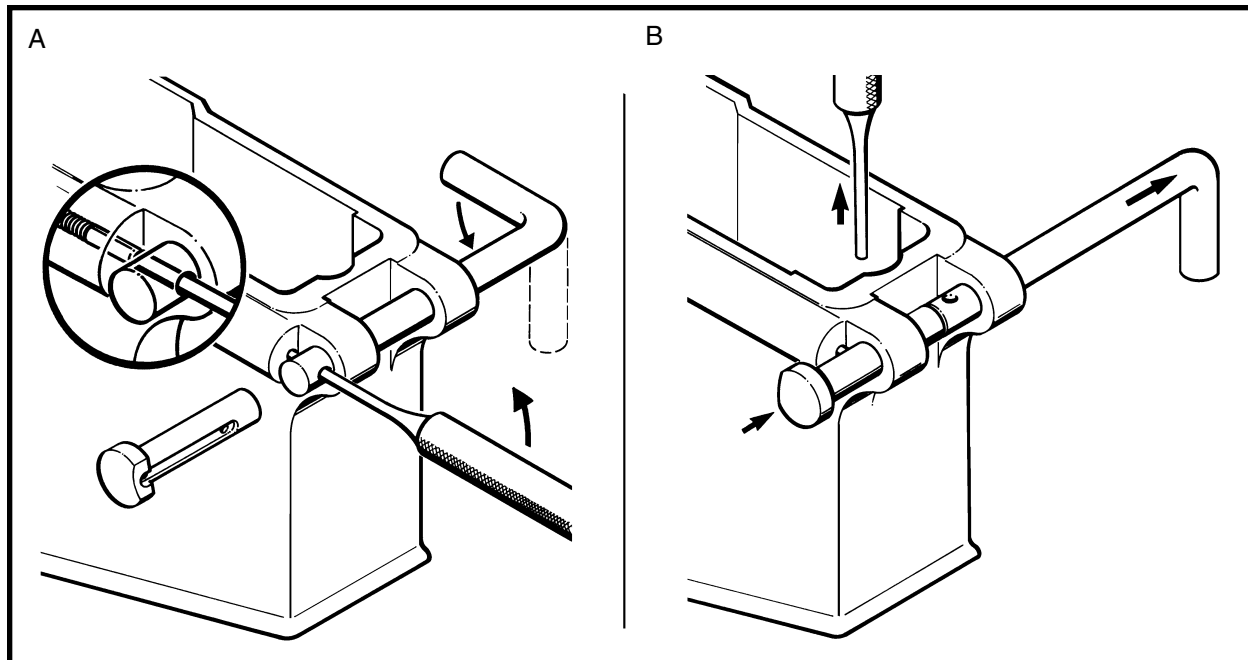

Figure 3-2-51 Replacing the Receiver Pivot Pin
57. **Reassembly.** To reassemble the receiver pivot pin to the lower receiver, see Figure 3-2-51 and proceed as follows: